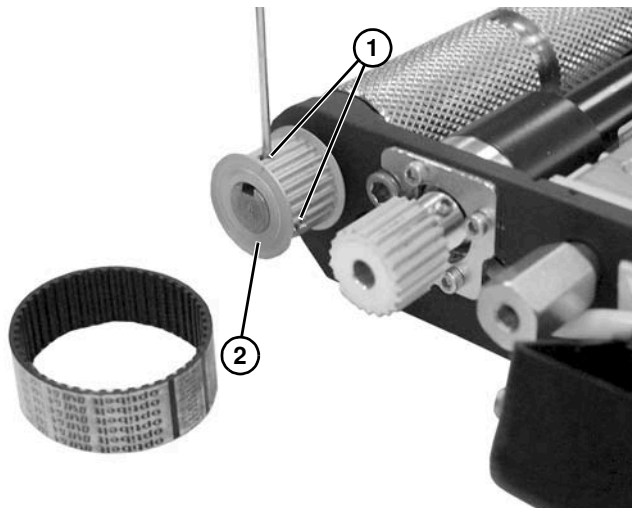

Figure 96
8. Loosen two set screws (Figure 96, item 1) on driven pulley (Figure 96, item 2), and slide off shaft to remove.